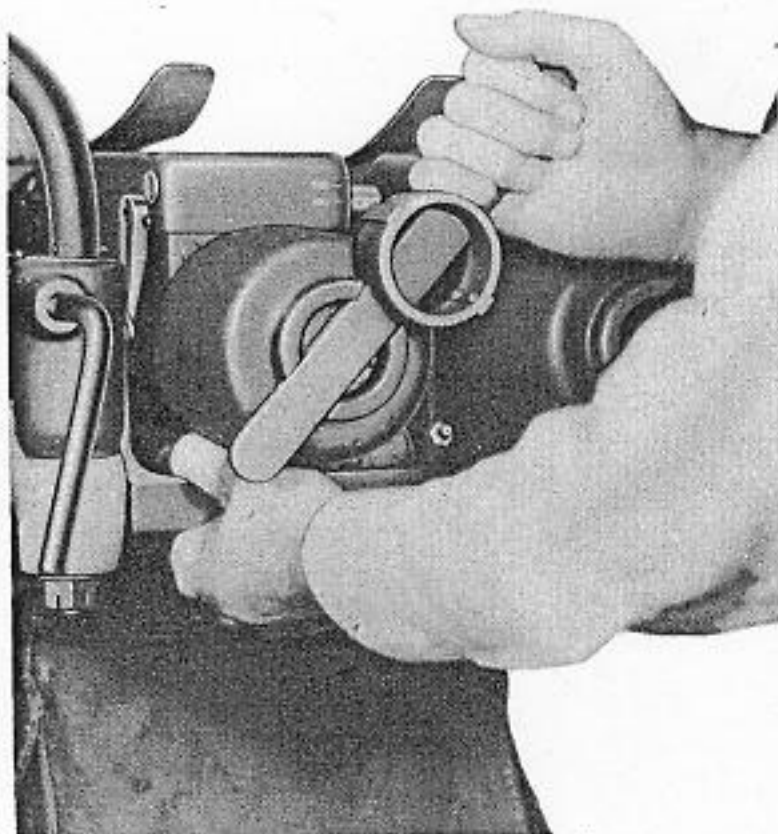

Figure 44. Removing Breech-Casing Rear Cap.
Place the handle of the barrel spring seating ring spanner (299814-3) in the lugs of the breech casing cap as shown in Fig. 44. Reach under the rear end of the breech casing and
Screw the breech-casing cap (300048-1) on the rear end of the breech casing, using the handle of the barrel-spring seating-ring spanner (299814-3) as a wrench to turn the cap, as shown in Fig. 44. Screw the cap up until it locks itself by engaging its notch with the breech-
5. **Breech-Casing Cap.** Remove the breech-casing cap as shown in Fig. 44 by turning it off with the barrel seating ring spanner (299814-3). The breech-casing cap retaining catch must be disengaged when the cap is first turned.